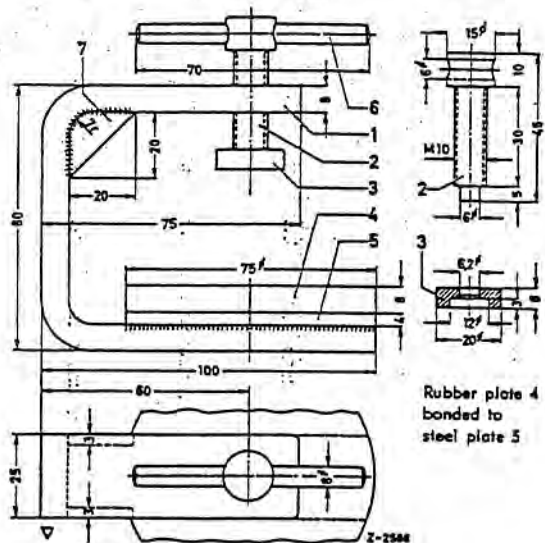

Fig. 42-12/12
5. Install the tensioning fixture (21) in the brake caliper in such a way that the rubber plate seals the bore. Then press out the second piston from the brake caliper (Fig. 42-12/11).
6. Remove the clamp rings (8) for the dust caps (9) and remove the dust caps from the pistons (2) (Fig. 42-12/13).